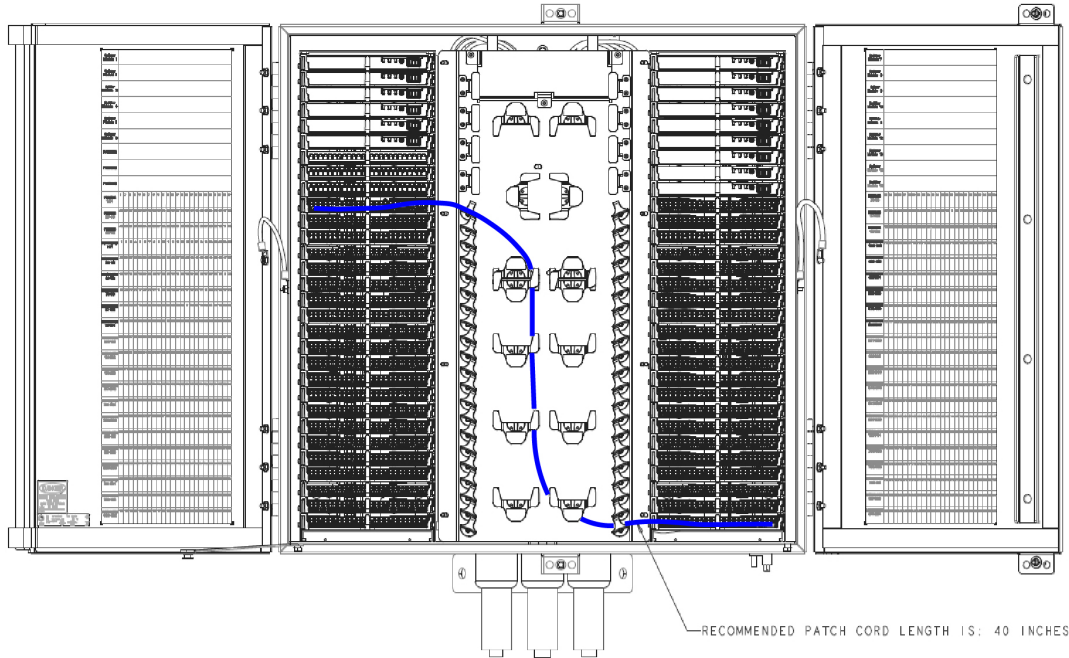

Figure 24. Point to Point Connection
15.5 The radius limiters in the center storage area can be used to take up slack. Route and dress the fiber slack as shown in Figure 24.